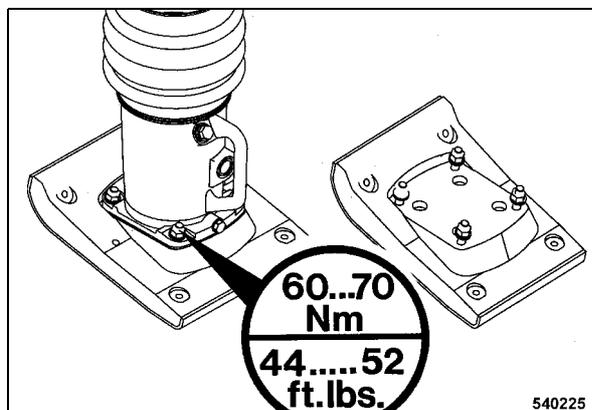

Fig. 29
- After changing the tamper foot plate (Fig. 29) tighten the 4 fastening screws with a tightening torque of 60 to 70 Nm (44 to 52 ft.lbs).